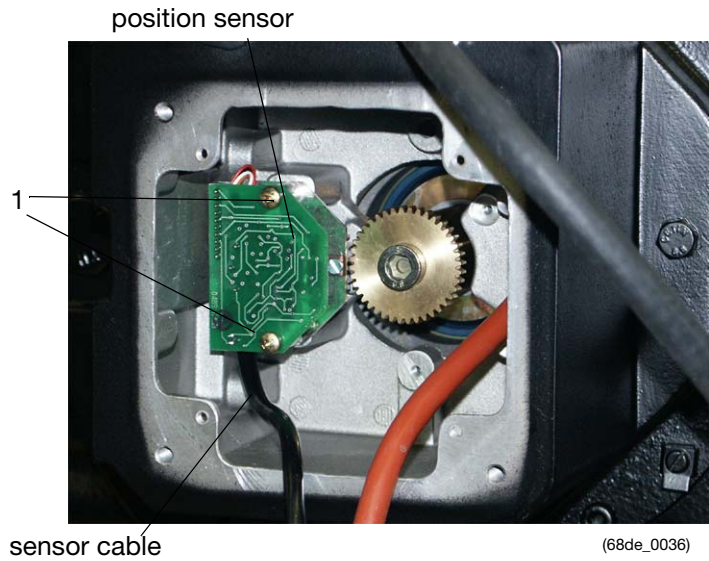

Fig. 44: Mounting position
- align the sensor and its gears with the actuator; set the first toothed gear in 09:00 o'clock position (fig. 44) onto the drive shaft gear (4).
- fasten the screws (1) tightly.